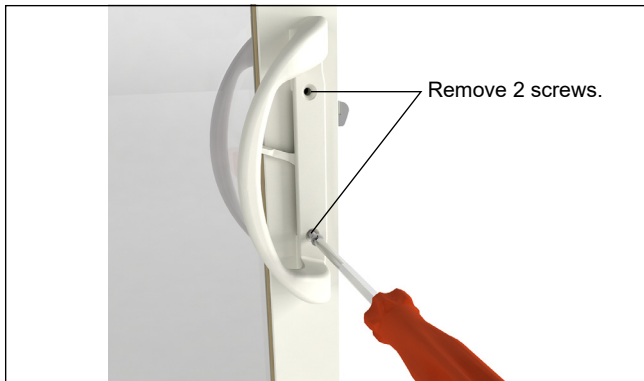

Figure 1
2. Using a #2 Phillips screwdriver, unfasten 2 screws and remove existing handle set. See figure 1.